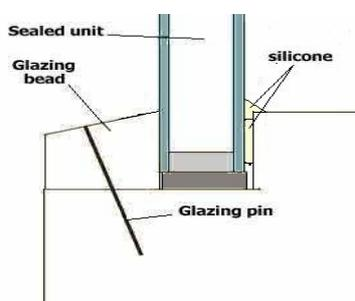
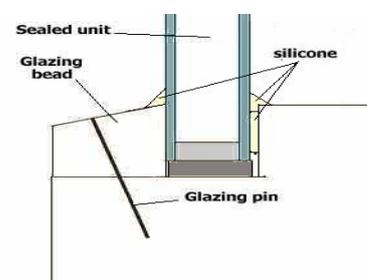

Fig 2.
Fig 3.
5. With a fine nozzle, run a neat continuous seal of silicone sealant between the face of the glass on the inside and the back rebate (see Fig 2.) and also between the face of the glass and the glazing bead on the outside thus forming a water tight seal on the edge seal of the unit from any moisture which may occur. Flexistrip can also be used for this process. Make sure any residual voids are filled (see Fig 3).